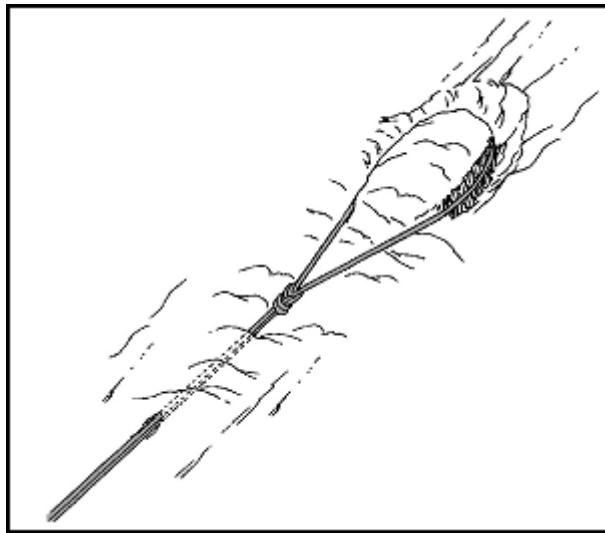

Figure 10-18. Horseshoe or bollard anchor.
(3) Turn the screw until the eye or the hanger of the ice screw is flush with the ice and pointing down. The screw should be placed at an angle 90 to 100 degrees from the lower surface. Use either your hand or the pick of the ice ax to screw it in. If you have a short ax (70 centimeters or less), you may be able to use the spike in the eye or hanger to ease the turning. (Remember that you may only have use of one hand at this point depending on your stance and the angle of the terrain.)
(4) As with ice pitons, melting of the ice around a screw over a period of time must be considered. The effective time and or strength of an ice screw placement is limited. The screw will heat from solar radiation, or the ice may crack or soften. Solar radiation can be nearly eliminated by covering the screw with ice chips once it has been emplaced. If repeated use is necessary for one installation, such as top roping, the screws should be inspected frequently and relocated when necessary. When an ice screw is removed, the ice that has accumulated in the tube, must be removed before further use.
d. **Horseshoe or Bollard Anchor.** This is an artificial anchor shaped generally like a horseshoe (Figure 10-18). It is formed from either ice or snow and constructed by either cutting with the ice ax or stamping with the boots. When constructed of snow, the width should not be less than 10 feet. In ice, this width may be narrowed to 2 feet, depending on the strength of the ice. The length of the bollard should be at least twice the width. The trench around the horseshoe should be stamped as deeply as possible in the snow and should be cut not less than 6 inches into the ice after all rotten ice is removed. The backside of the anchor must always be undercut to prevent the rope from sliding off and over the anchor.
(1) This type of anchor is usually available and may be used for fixed ropes or rappels. It must be inspected frequently to ensure that the rope is not cutting through the snow or ice more than one-third the length of the anchor; if it is, a new anchor must be constructed in a different location.
(2) A horseshoe anchor constructed in snow is always precarious, its strength depending upon the prevailing texture of the snow. For dry or wind-packed snow, the reliability of the anchor should always be suspect. The backside of the bollard can be reinforced with ice axes, pickets, or other equipment for added strength.